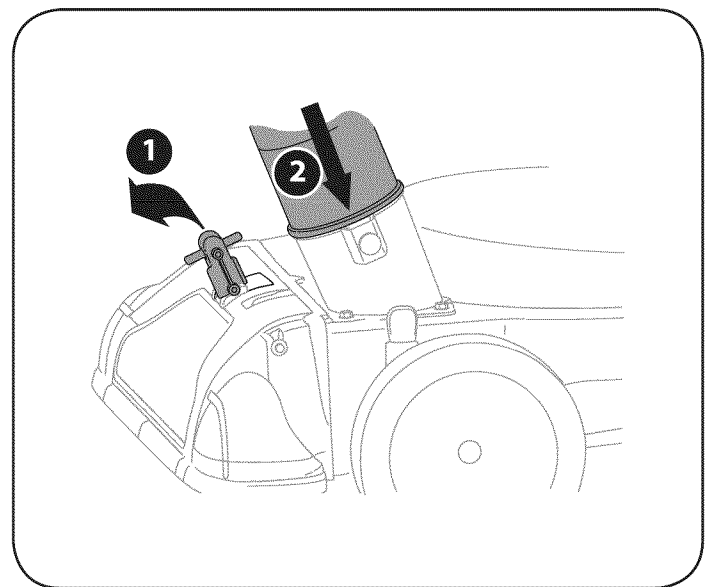

Figure 19
1. Place nozzle/hose vac lever in the bottom position on the nozzle to redirect vacuum to the hose assembly. See Figure 19.